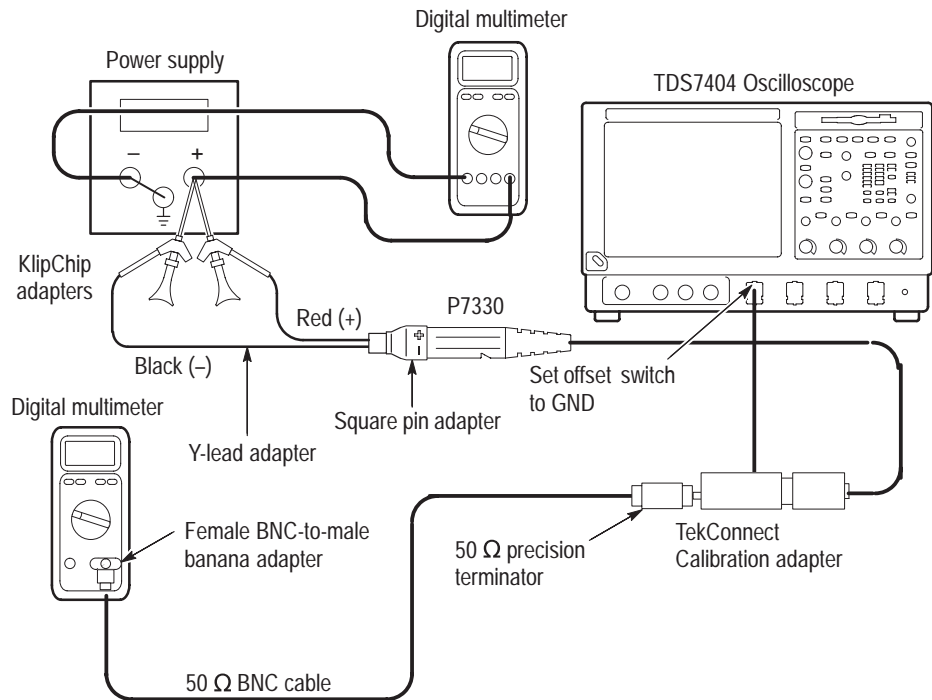

Figure 15: DC CMRR setup
2. Connect the test equipment as shown in Figure 15.